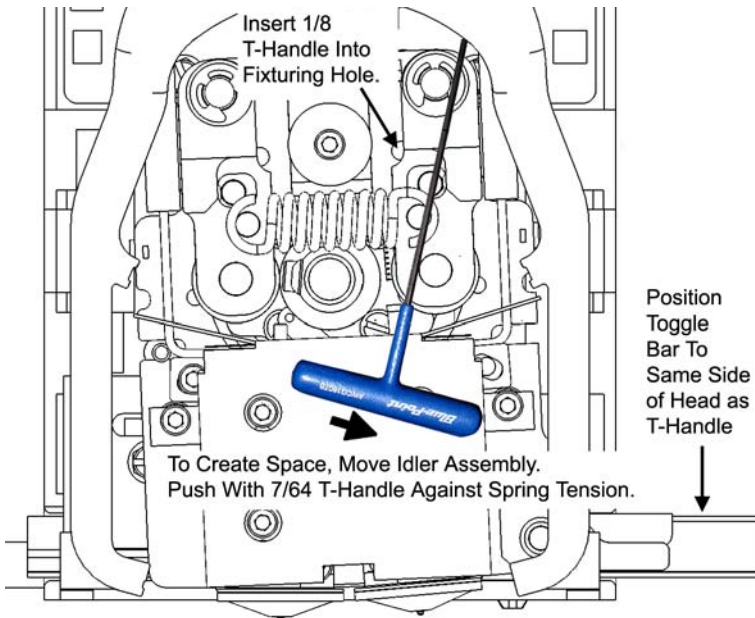

Figure 27: Create Access Space for Cleaning - Model Tip Side
- B. To facilitate access to areas that may need to be cleaned, move the material idler wheels out of the way (there is one idler wheel for support material and one for model material - Figure 27 illustrates the model side):